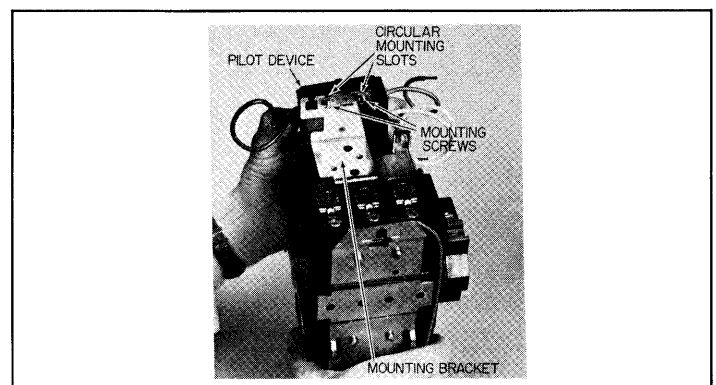

Figure 4. Installation of push button or selector switch.
9. Slide pilot device onto the mounting bracket, using square mounting holes for CR307 or CR308 and circular mounting slots for CR305 or CR306 as shown in Figure 4.